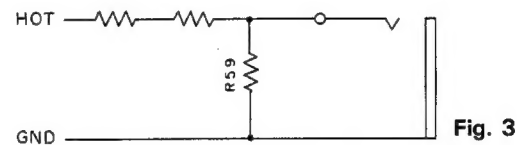

Fig. 3
- 1) The constants are determined using a standard phone jack with switch so that the output impedance of the headphones is 120 ohms. When the phone jack is inserted, R59 is placed between HOT and GND. (See Fig. 3)